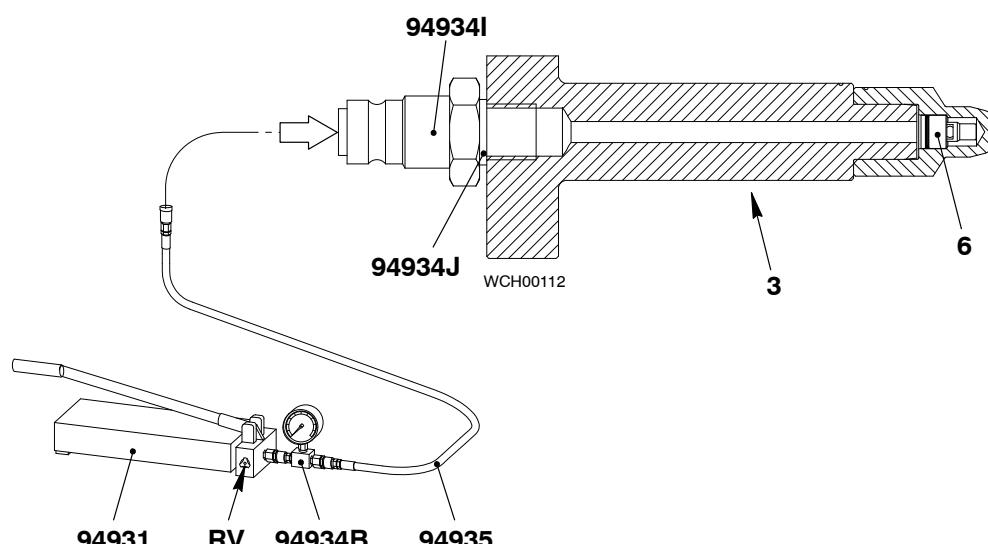

Fig. 3
- 2) Install the connection nipple 94934I with the tredo joint 94934J to the lubricating quill 3 (see Fig. 3), see Fig. 3.
- 4) Hold the lubricating quill (3) up and operate the pump until oil that flows has no air.
- 7) Hold the lubricating quill (3) in a horizontal position.
- 8) Operate the pump and increase the pressure in steps of 1 bar until the non-return valve (6) opens.